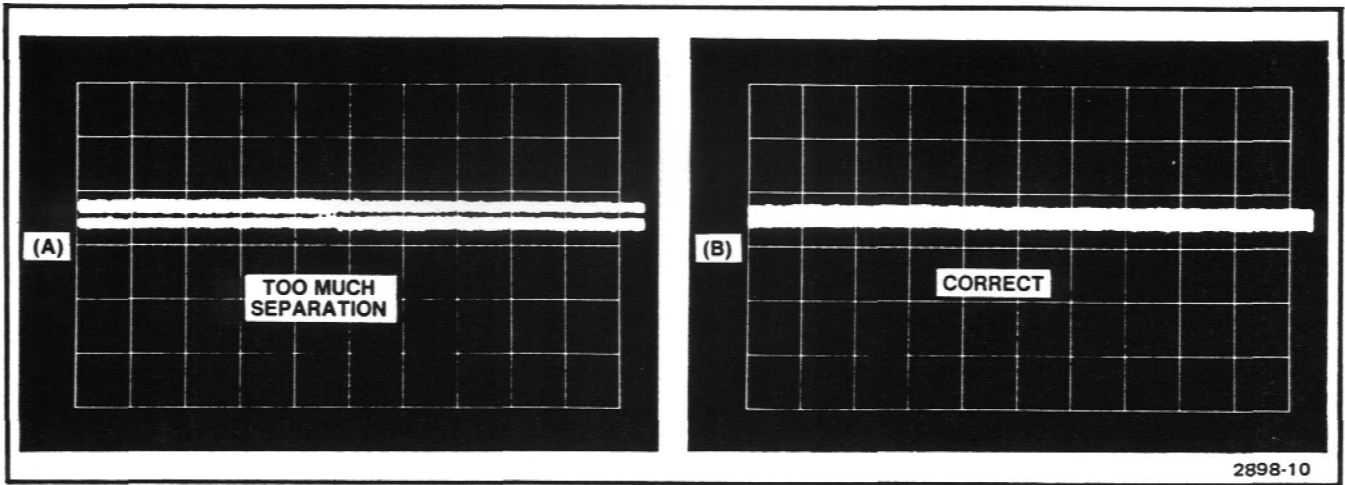

Fig. 9. Display of tangentially-measured noise (A) incorrect; dark area showing between traces, (B) correct display.
a. Adjust calibration generator amplitude until two free-running traces just merge (no dark area between traces). See Fig. 9.